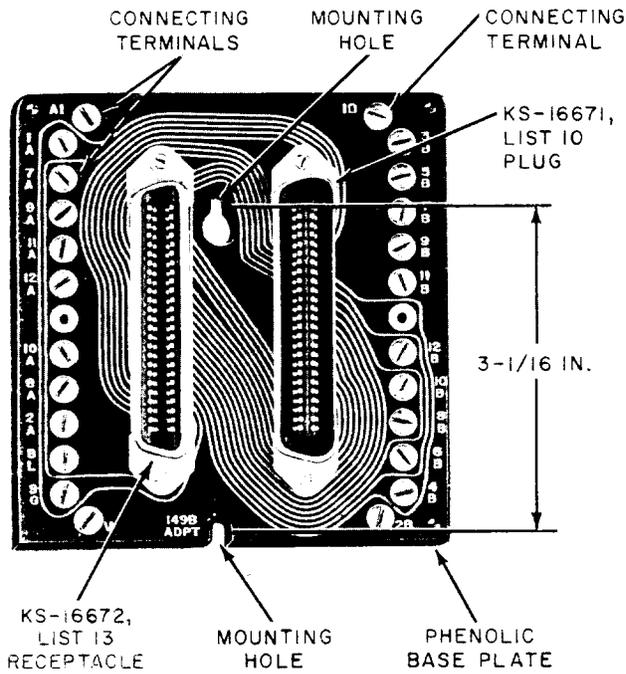

Fig. 7—149B Adapter, Printed Wiring Board Assembly
2.15 The 149B adapter is similar to the 149A (MD) adapter except that wiring has been replaced by printed wiring, and the receptacle and plug are mounted on the face of the printed wiring board assembly (Fig. 7). The printed wiring board is mounted to a phenolic baseplate.